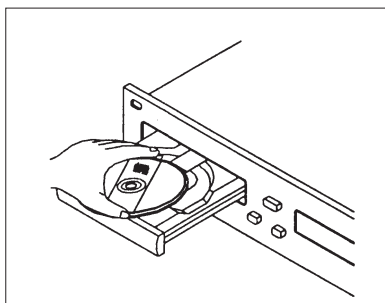
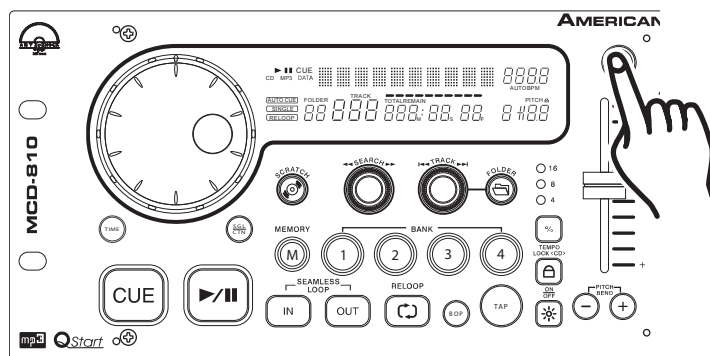

Figure 6: When loading a disc always hold the disc by it edges and load the disc label side up.
Figure 7: Hold down the Eject Button to remove a disc.
The MCD-810™ can only play 3 and 5 inch CDs. Odd shaped, and oval CDs are not compatible. When loading a CD into the transport tray, always hold the disc by it edge (see Figure 6). Load the disc label side up and place it in the disc tray. Never touch the signal surface (the glossy side). To remove a disc from the tray press the **EJECT BUTTON** (4), see Figure 7.